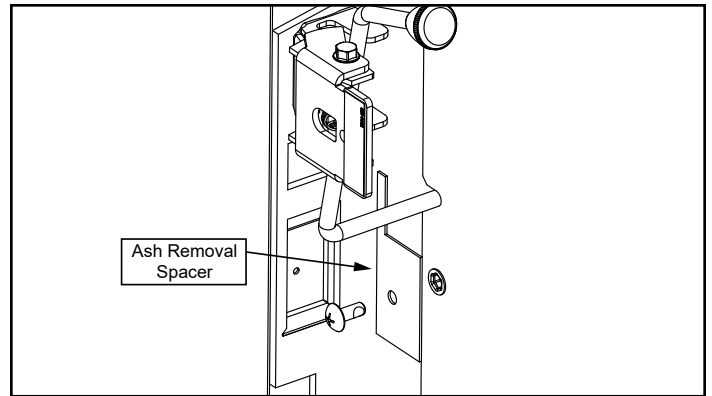

Figure 19.5
2. Install ARS Spacer on left hand side with one bolt using Phillips head screwdriver (**Figure 19.5**).